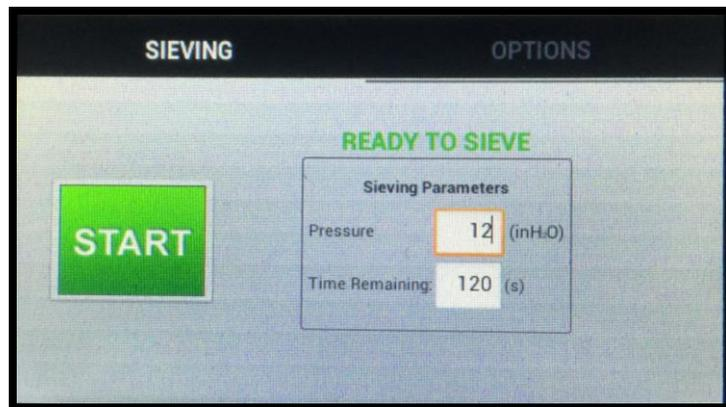

Figure 14
- a. The MAJSx software will perform the start-up sequence. The screen will briefly display an image of a penguin, followed by the word "ANDROID"(in small characters). It will then display the "MAJSx Logo", followed by a white screen with the words "MIKRO AIR JET SIEVE". Once the software has completely started, the main “SIEVING” screen will be displayed. (Figure 14)